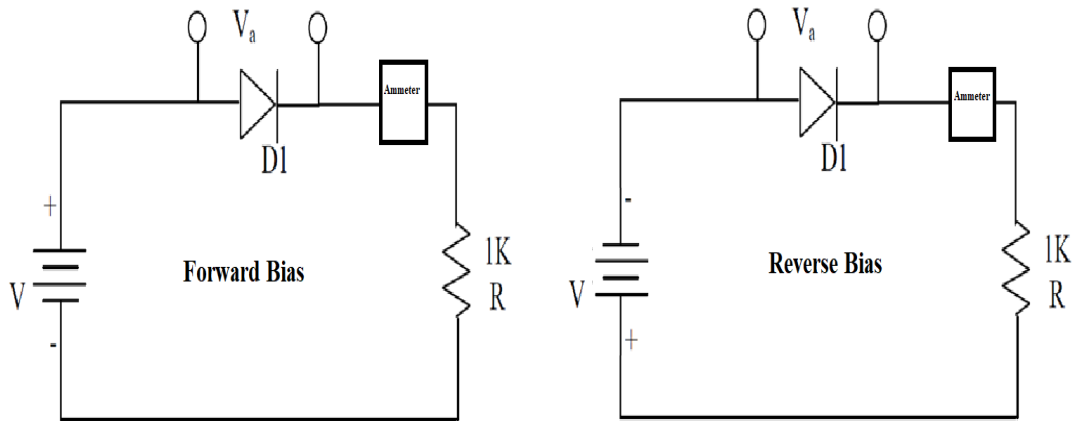

Figure 2.1: Typical Diode Circuit
- Connect the components as shown in the Figure 2.1.
- Connect the diode in the reverse bias as shown in Figure 2.1.